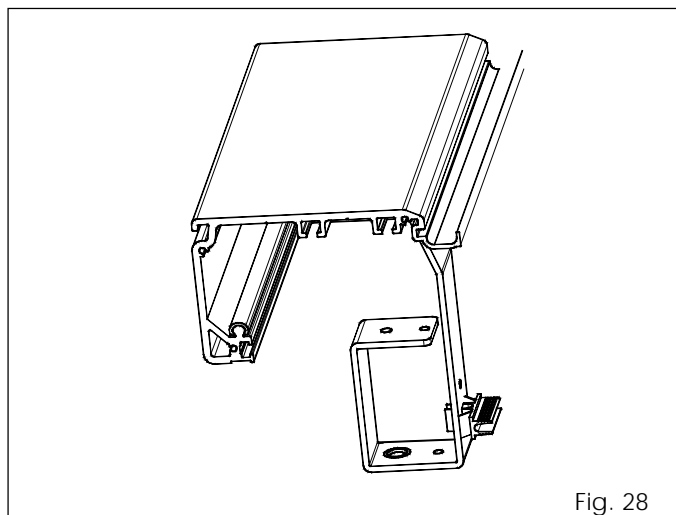

Fig. 28
- Secure the bracket supporting the internal release knob to the other end of the head profile (on the motor unit side), as shown in fig. 28.